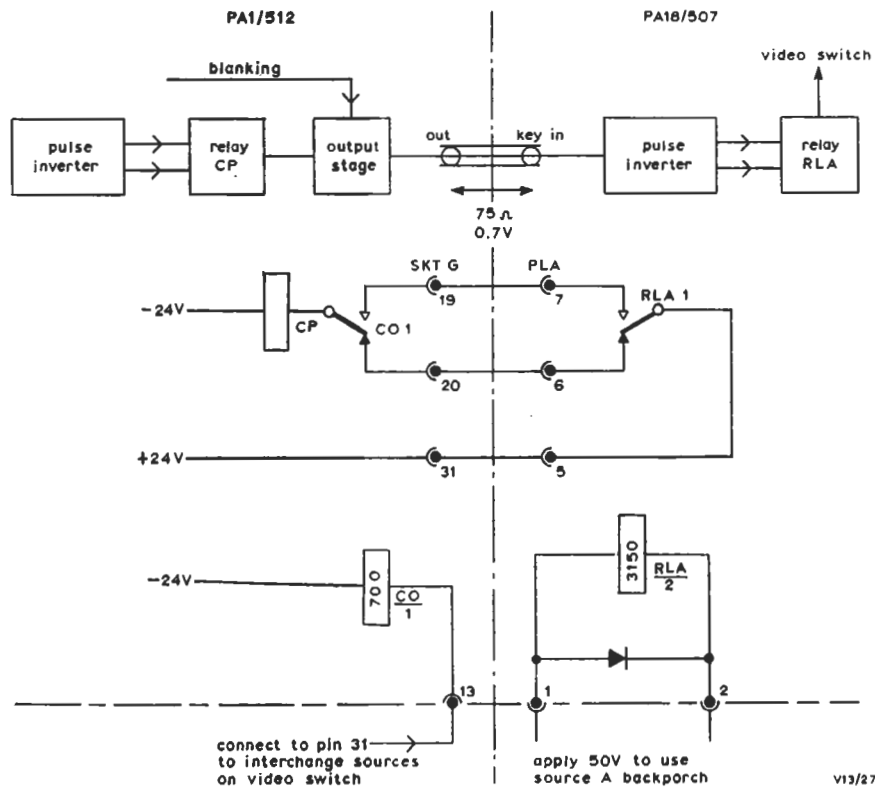

Fig. 12.6 Relay Interconnections between PA1/512 and PA18/507
- CO (Mounted at the rear of the PA1/512.) Links the operation of relay CP with a relay RLA in a PA18/507 as shown in Fig. 12.6. RLA determines the source of the output-signal blanking (including colour burst).